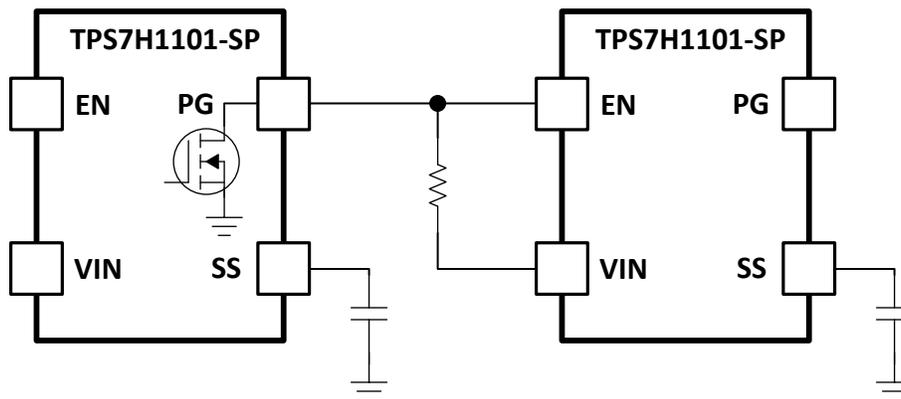

Figure 11. Sequencing LDOs with Power Good
7.3.2 Power Good (PG)
Power Good terminal (9) is an open-drain connection and can be used to sequence multiple LDOs. Figure 11 shows typical connection for $V_{IN} > 3.5$ V. The PG terminal will be pulled low until the output voltage reaches 90% of its maximum level. At that point, the PG pin will be pulled up. Since the PG pin is open drain, it can be pulled up to any voltage as long as it does not exceed the absolute max of 7.5 V listed in the table.